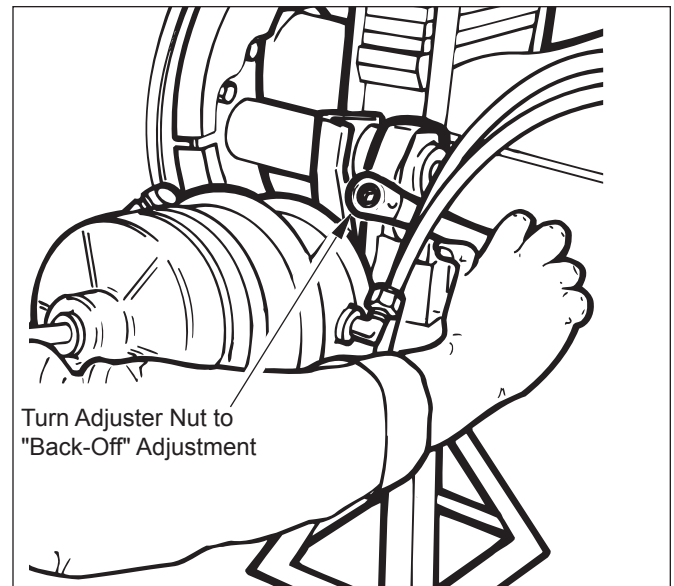

Figure 11. Brake Adjuster Adjustment
2. While depressing locking sleeve, back off brake adjuster adjustment nut on manual brake adjusters. Refer to Figure 11. Continue turning until shoes are fully returned to released position and clear of drum. On self adjusting brake adjusters, follow manufacturer's instructions.